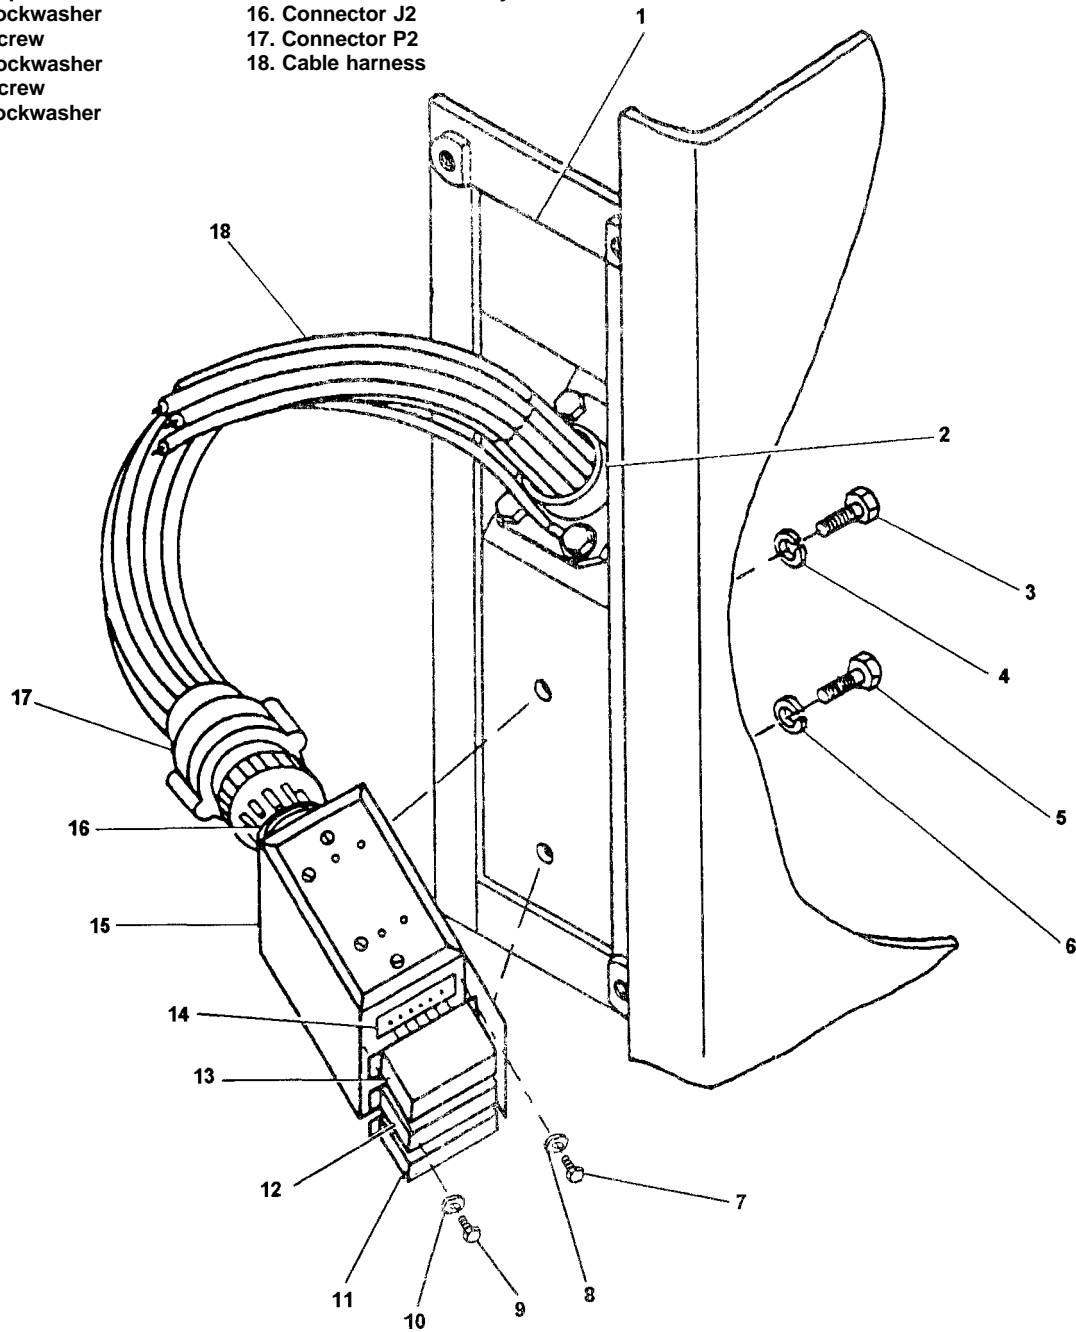

Figure 5-15. Remote Functions Assembly
- (1) Remove dust cap from connector J1 and inspect for dirt, loose pins, discoloration, and loose hardware. Make sure dust cover retaining chain is mounted on lower right hand mounting screw of connector J1.
- (2) Inspect interior of generator set for dust, dirt, water, and excessive oil or grease.
- (3) Inspect cables and wire harness connectors for loose connectors and plugs.
- (4) Inspect cables and wires for frayed insulation, bum marks, and loose wires and pins.
- (5) Inspect cable connector strain relief screws for tightness.
- (6) Inspect relays K1, K2, and K3 (Figure 5-15) on remote functions housing for discoloration, bent pins, and loose fittings.